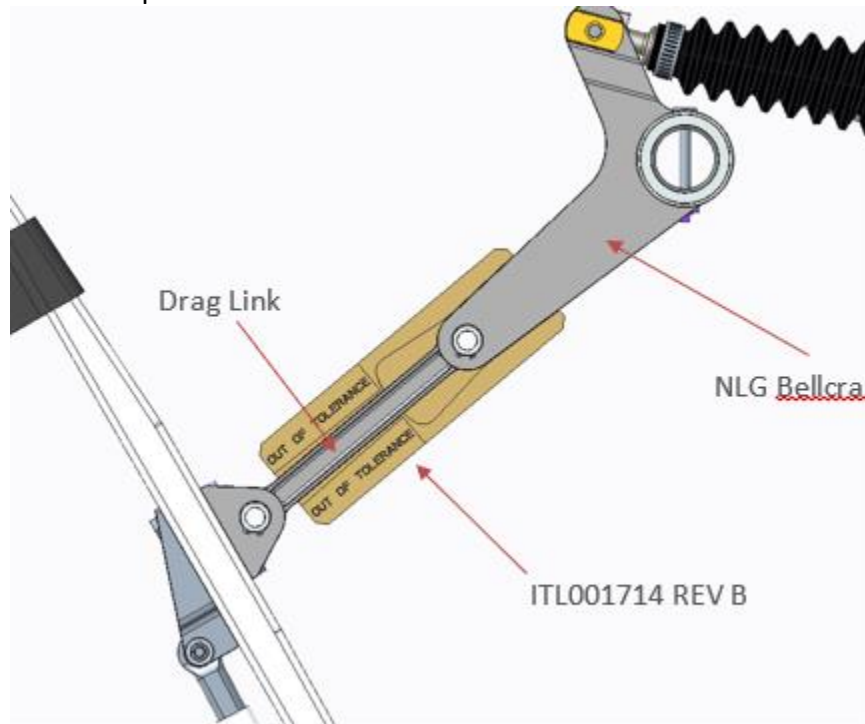

Figure 2 ITL001714 Rev B Indexed on NLG Bellcrank showing the drag link within the “in tolerance” range.
- b. If **not in tolerance (Fig. 2)**, the nose landing gear needs to be re-rigged within the “nominal range” using ITL001714 Rev B and rigging procedure section below.
- b. If **the drag link indication is not “in tolerance” (Fig. 2)**, and the nose landing gear has not been re-rigged in step 1, rig the NLG actuator to the “nominal range” using ICON Tool No. ITL001714 Rev B by following the procedure in the ICON A5 Maintenance Manual (ICA000833, section 100391 or 100392) and repeat steps 2-8 of this section 24 additional times. Reinstall the 15A MLG fuse.
- a. If a 0.163-inch rigging pin **can be inserted** into the NLG rigging hole (figure 2), then proceed to step 2 of this section.